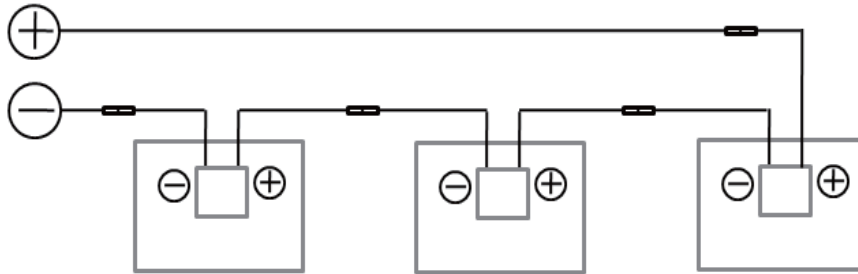
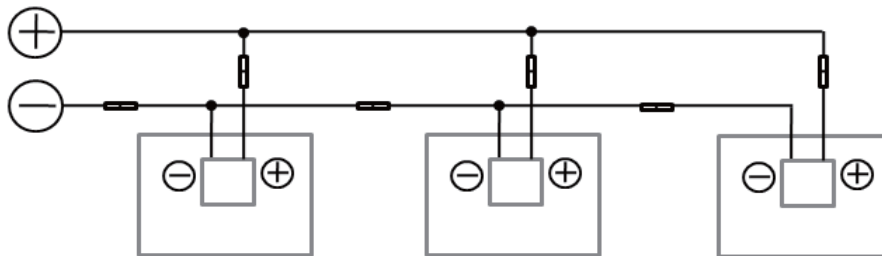
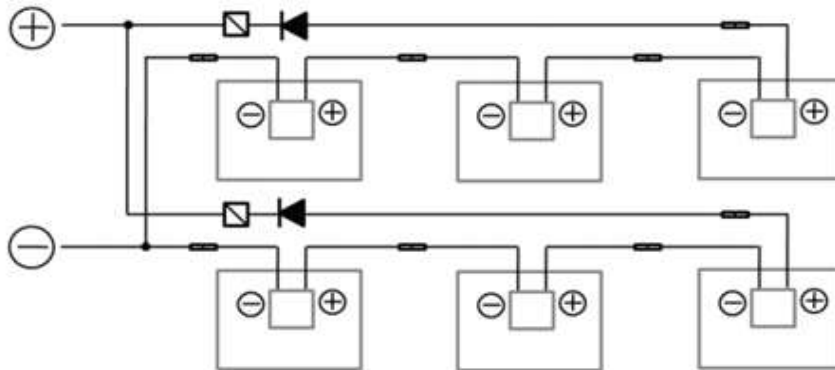

Fig. 10-1 Series Connection
Fig.10-2 Parallel Connection
Fig.10-3 Parallel-series Connection
- The Direct Current (DC) generated by the PV system can be converted to Alternating Current (AC) and connected to the public power grid. Different regions may have different policies, laws and regulations to stipulate the installation and grid-connection requirements of PV systems. Therefore, during the design, installation and grid-connection of PV system, please comply with the local policies, laws and regulations.
- In order to ensure the normal running of the system, when connecting modules or loads, please ensure that the polarity of the cable connection is correct. If the modules are incorrectly connected, the bypass diodes and junction boxes may be damaged. PV modules can be connected in series (Fig. 10-1), in parallel (Fig.10-2) and in series-parallel (Fig. 10-3). The number of serial or parallel connections shall be reasonably designed according to the system configuration. Also note that if the number of parallel connections